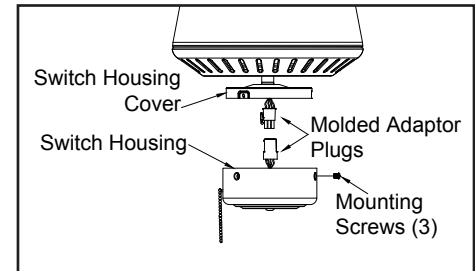

Figure 16
3. Attach the switch housing and secure it to the switch housing cover using the three screws that were removed. (Figure 16)